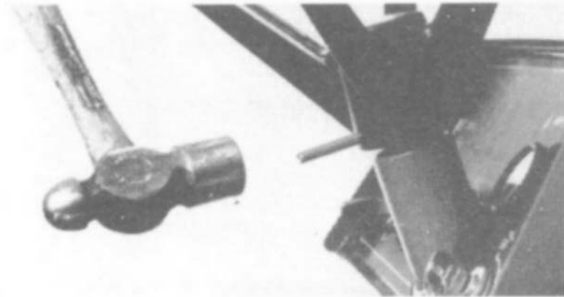

Fig.2
2. Insert drift punch – partially through the holes to maintain alignment and insert roll pin in the opposite side; See Fig.2.